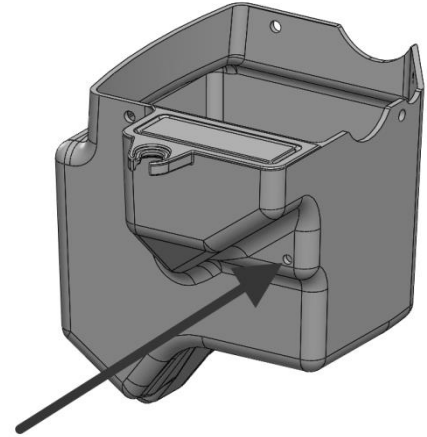

Figure 11
15. Drill hole for A/C line retainer in the lower air box of the new intake kit using a 6.5mm drill bit in its corresponding recessed location (Figure 11).